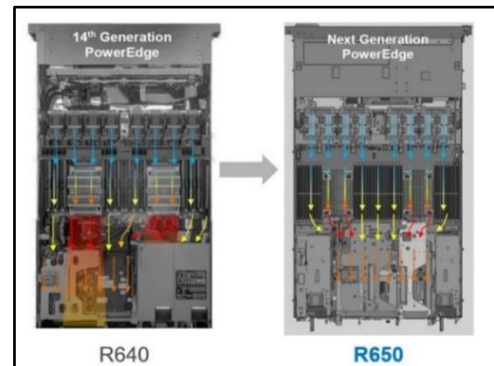

Figure 3 – The PowerEdge R650 has a more balanced airflow design compared to the PowerEdge R640
**Balanced Airflow Design** – Perhaps the most impactful change is having a more balanced airflow design. Figure 3 illustrates that the R650 motherboard layout is more symmetrical than the R640. The R640 layout was challenged due to PSU and PCIe cards located directly downstream of the CPU exhaust paths creating PSU and PCIe cooling challenges and an imbalance in airflow across the width of the system. The R650 virtually eliminates these bottlenecks by moving the PSUs out of the CPU exhaust path, balancing the airflow, and creating the purposeful paths for CPU exhaust airflow to the rear of the chassis. The R750 features the same split PSU layout and purposeful CPU exhaust paths in addition to a dedicated duct design that delivers fresh air to the rear PCIe slots for high power GPU configurations.